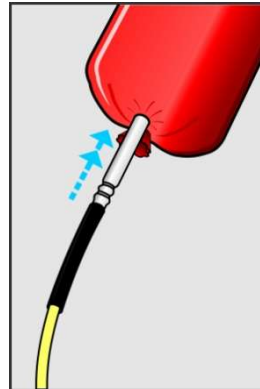
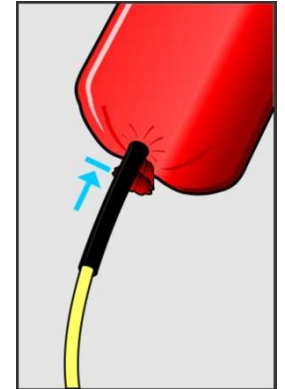

Fig. 4-3
Fig. 4-4
3. Be sure that the detonator is in the correct position - whole length of shell must be inside the primer. (Fig. 4-3, Fig. 4-4)